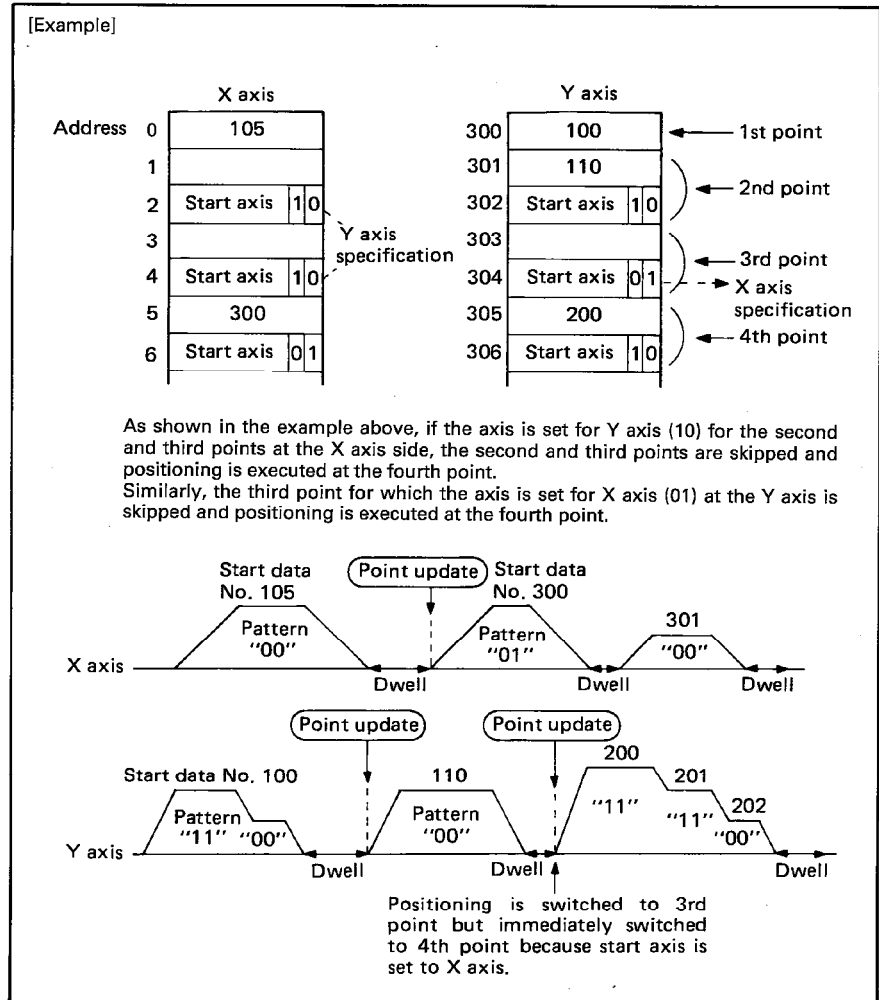

Fig. 2.32 Start Data Example 2
- 2) If the Y axis is set as the start axis (10) in the start data No. area for the X axis, the data of such a point is disregarded (positioning is not executed) and the control advances to the next point (See Fig. 2.32.). This is also true if the X axis is set as the start axis (01) in the start data No. area for the Y axis.